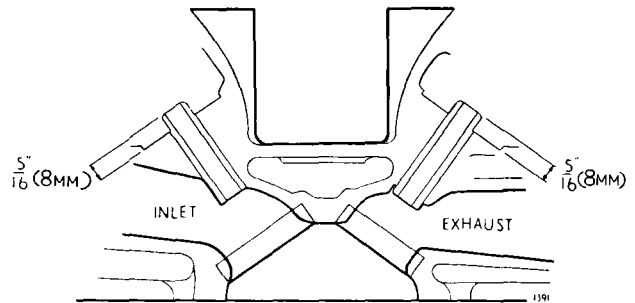

Fig. 51. Showing the fitted position of the valve guides.
- (3) Heat the cylinder head by immersing in boiling water for 30 minutes.
- (4) Coat the valve guide with graphite grease and press in, or drive in with a piloted drift, from the combustion chamber end. The correct fitted position for both inlet and exhaust guides is with the top of the guide (chamfered end) $\frac{5}{16}$ " (8 mm.) above the spot facing for the valve spring seat. (See Fig. 51).